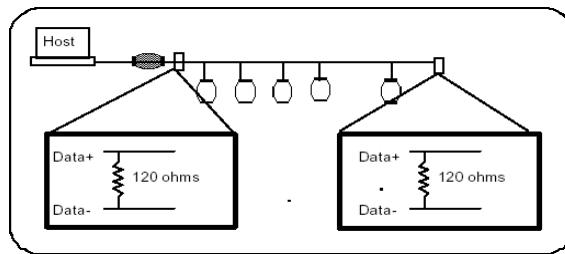

Figure A-2 Terminator Connection
7. To prevent signal reflection, add a 120 Ohm resister to the last module (see Figure A-2).